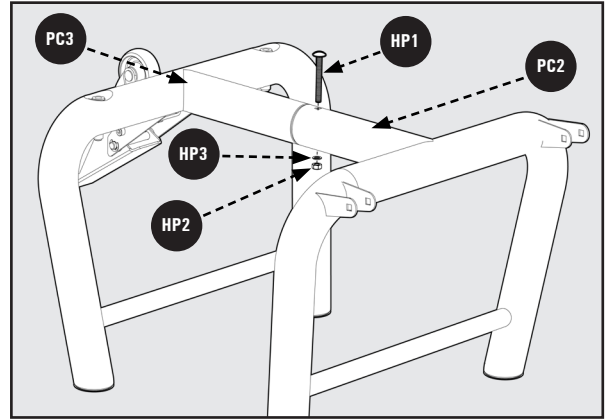

Figure 1
1. Connect the two Tube Legs together by inserting the end of the Left Leg (PC2) into the end of the Right Leg (PC3). Using a 13mm Wrench, secure them together with a M8 x 75mm Carriage Bolt (HP1), M8 Flat Washer (HP3), M8 Nylock Nut (HP2) and tighten. See Figure 1.